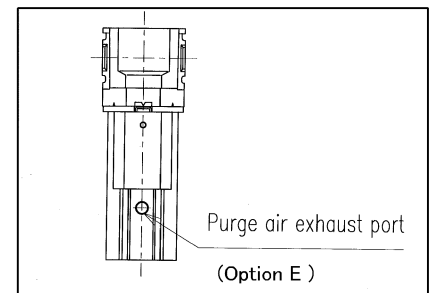

Fig. 7
- 5) In case of the option E of SU300-W series, piping of exhaust air should use the hose or piping material of I.D. 5.7 mm or more, and give length as less than 3m. (Refer to Fig. 7)
- 5) In case of the option E of SU400-W series, piping of exhaust air should use the hose or piping material of I.D. 7.2 mm or more, and give length as less than 3m. (Refer to Fig. 7)